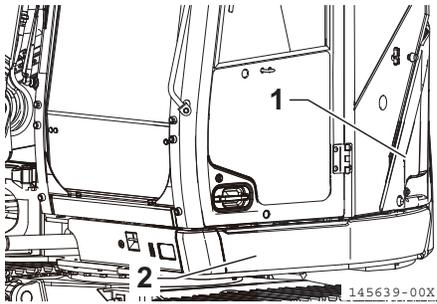

Fig. 8-72
2. Remove the left hood (Fig. 8-72, 1).
3. Remove the guard L (Fig. 8-72, 2).
11. Reinstall the guard L (Fig. 8-72, 2) and left hood (Fig. 8-72, 1).